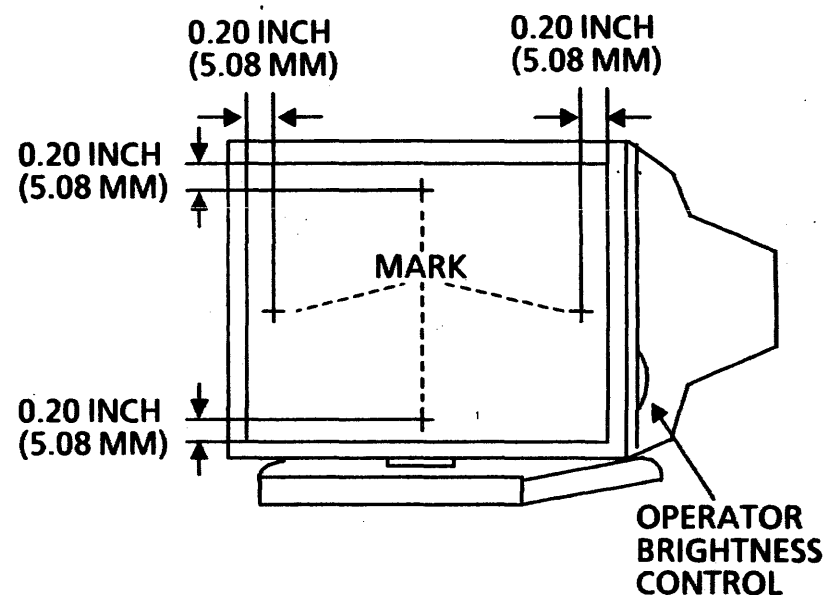

Figure 4-17 6085 15 Inch Display
- a. Using a felt tip pen, mark face of the display as shown in Figure 4-17.